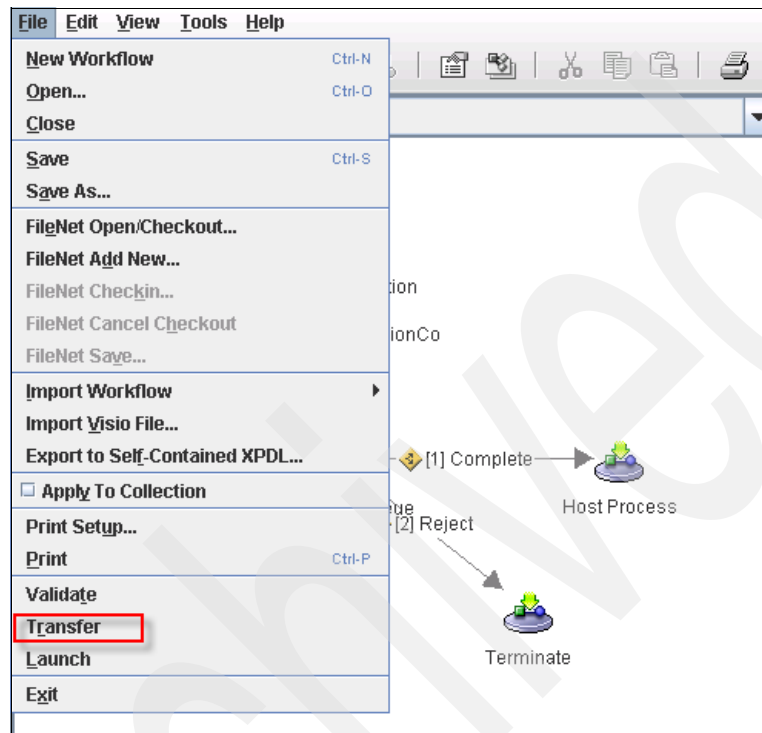

Figure 7-52 Selecting Transfer to transfer the workflow
- a. Select **File** → **Transfer** (Figure 7-52).